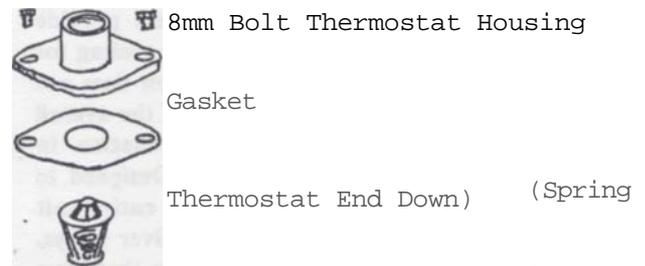

Figure 1
7. Retrieve from you SJE kit the new thermostat housing assembly (figure 1). Clean thermostat housing gasket surface on the intake manifold. Then install original thermostat with the thermostat housing on top. Position new gasket from kit on intake manifold. **Be Sure Thermostat fits in the recess before tightening.** Secure thermostat housing with (2) 8MM X 1" bolts and lockwashers. Tighten the bolts evenly and firmly.